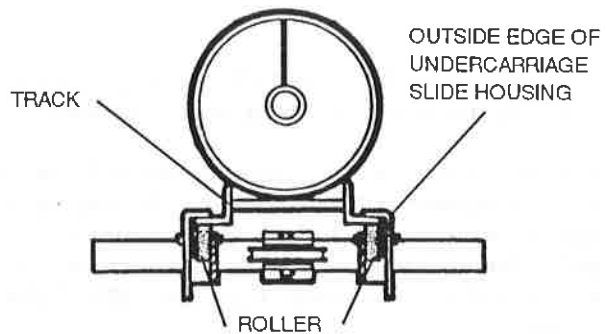

FIG. 33B
Step 5. Before the upper cable anchor/stop can be attached, the undercarriage slide must be installed on the track. See Figure 33B. To accomplish this, lift the auger assembly a few feet by lifting at a point near the center of the auger with a chain hoist or other safe, suitable means. DO NOT lift the entire weight of the auger from the extreme end. DO NOT use drive shaft to lift auger. Use a sling completely around auger housing assembly for lifting. Install the undercarriage slide onto the track from the discharge end. Be sure the slide is installed on the track so that it cannot be removed from the track after the cable anchor/stop has been attached.